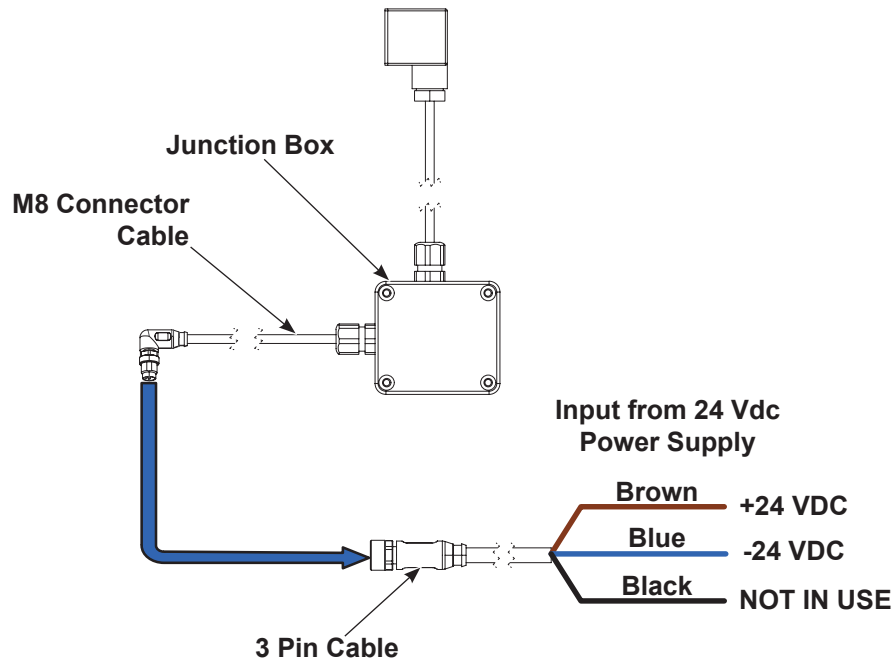
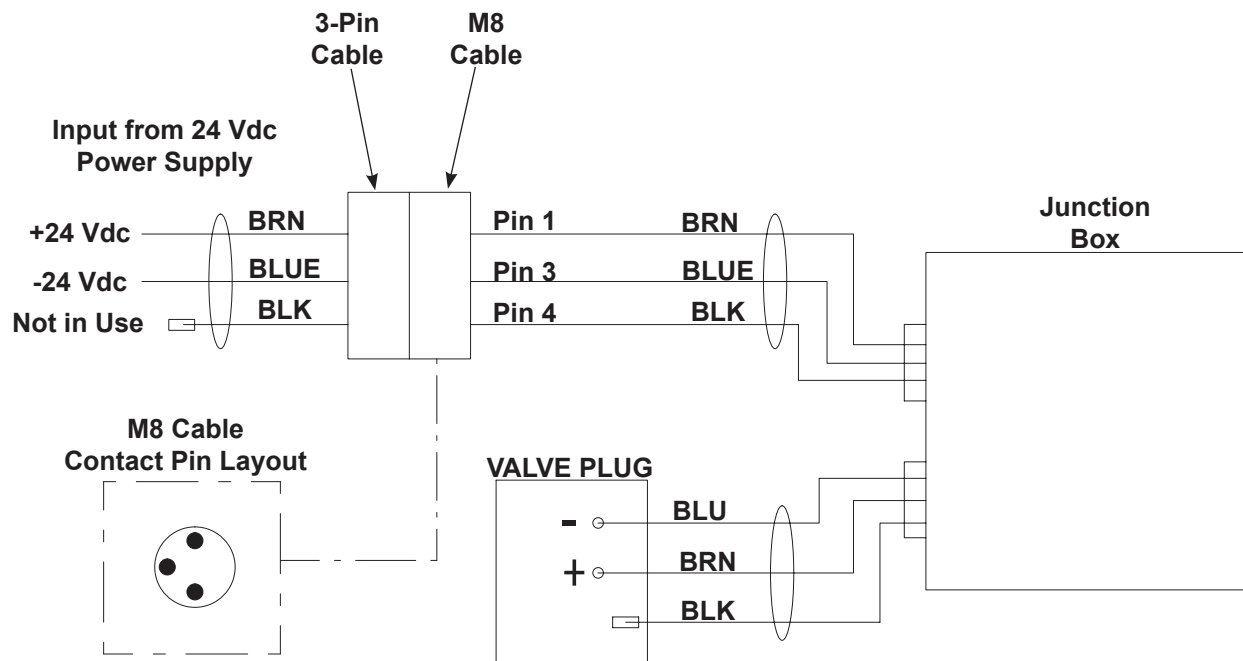

Figure 8 Junction Box M8 Connector to 3-Pin Cable to External Power Supply
Figure 9 3-Pin Cable to 24 Vdc Power Supply Wiring Diagram for Kits without Turbine Generator
- a. See Figure 8. Wire the 3-pin cable (ordered separately) to customer provided 24 Vdc power supply. For additional wiring reference, see Figure 9.